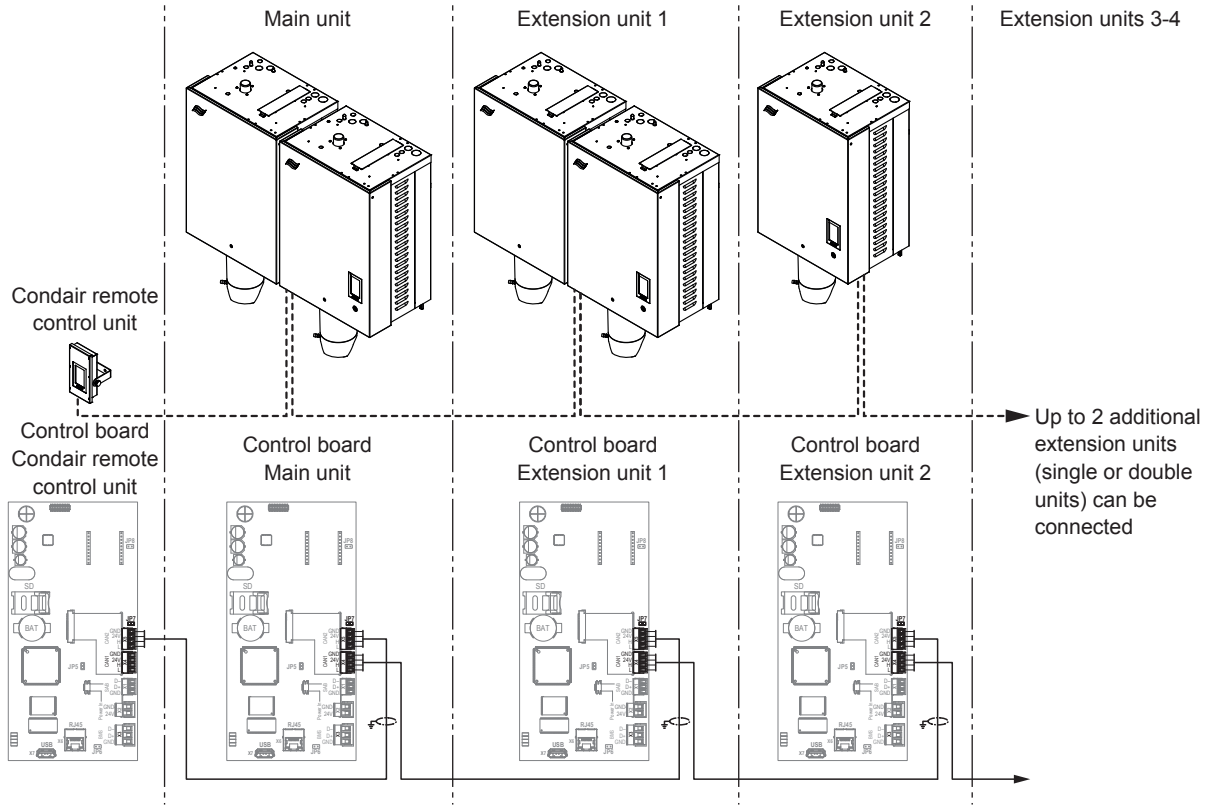
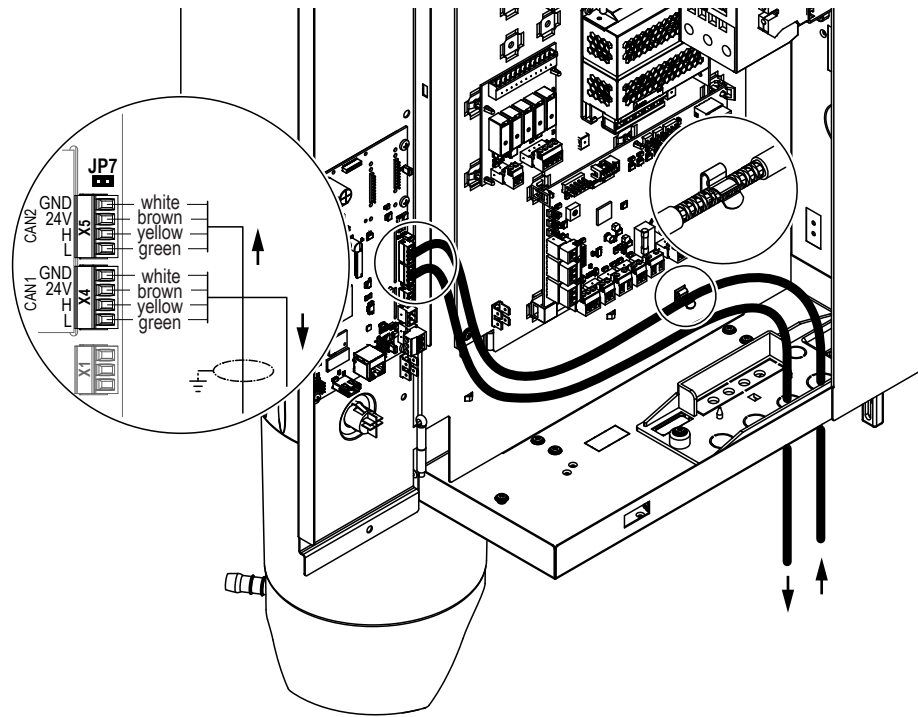

Fig. 32: Connecting multiple units (device interconnected system)
Fig. 33: CAN Bus cable connection / Shielding
Connect multiple units as follows (see Fig. 32):
2. Connect all devices in the "device interconnected system" using the supplied pre-assembled CAN Bus cables according to the diagram shown in Fig. 32 and Fig. 33.
- Pinch the freed shielding of the pre-assembled CAN Bus cable coming from the previous device into the clamp holder inside the control compartment of the humidifier as shown in Fig. 33.
- Connect CAN Bus cables to the corresponding terminal block (incoming cables to "X5" and outgoing cables to "X4") as shown in Fig. 33 on the control board of each device.